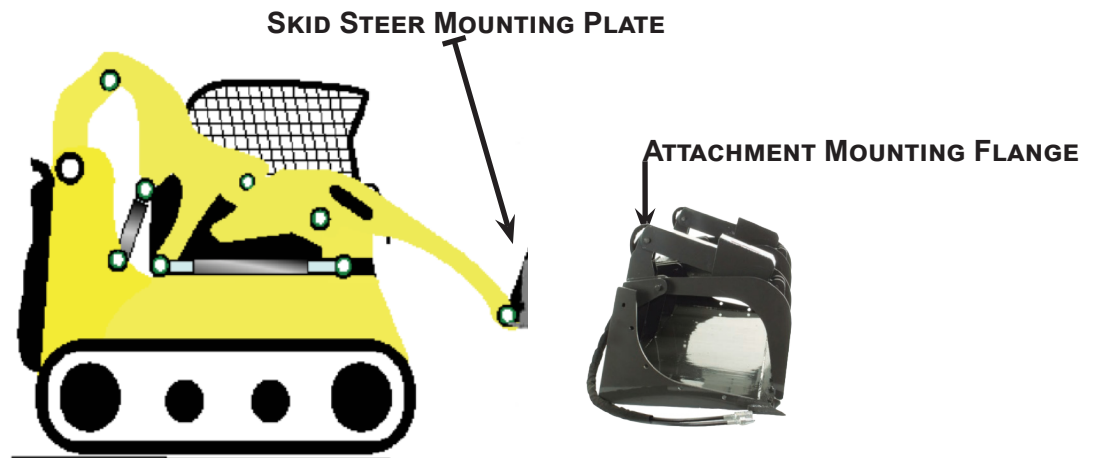

**FIGURE 4.2A - SKID STEER MOUNTING PLATE TO ATTACHMENT MOUNTING FLANGE**
2. Drive the skid steer to the attachment plate and tilt the skid steer coupler forward and hook the top edge of the skid steer quick attach mechanism under the lip of the grapple's attachment plate. See figure 4.2a below.
3. Slowly raise and tilt back the skid steer mounting plate, moving upward until the grapple's attachment plate is flat against the skid steer quick attach mechanism. See figure 4.2a below.